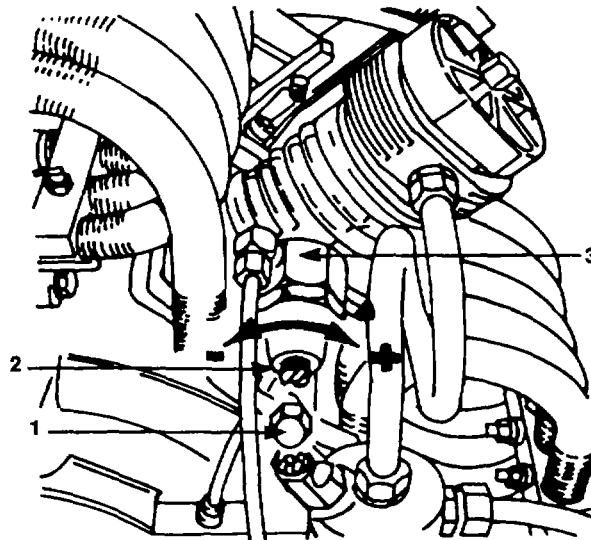

Figure 3-10. Oil Pressure Regulating Valve
1. Remove acorn nut (1) and turn adjusting screw (2) slowly on the oil pressure regulator (3, figure 3-10).